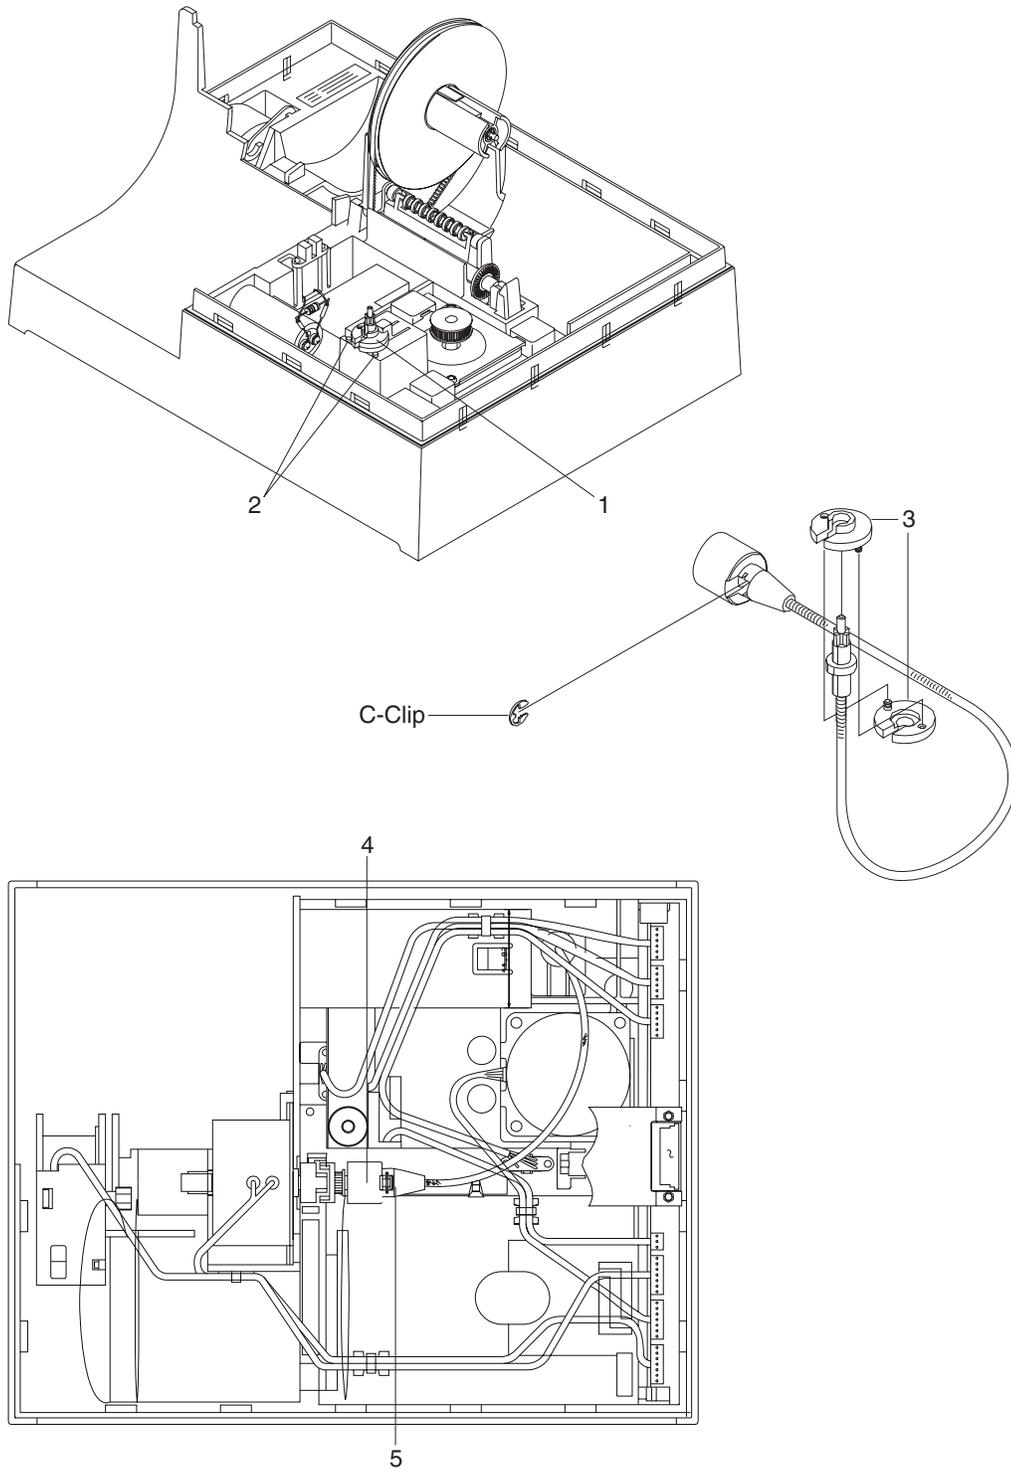

Figure E-14. Ribbon Drive Shaft and Bearing
- 2** Turn the shaft bearing (1) until the slot in the bearing aligns with the retainer (2). See Figure E-14 on page E-17.
- 4** Remove the bearing from the shaft by separating the parts (3) as shown in Figure E-14 on page E-17.
- 2** Put the bearing on the drive shaft by snapping the bearing parts together, as shown in Figure E-14 on page E-17.
- 3** Align the slot (1) in the bearing over the retainer (2).
- 6** Connect the ribbon drive shaft coupler (3) to the motor shaft.
- 7** Attach the coupler to the shaft with the C-clip (3).